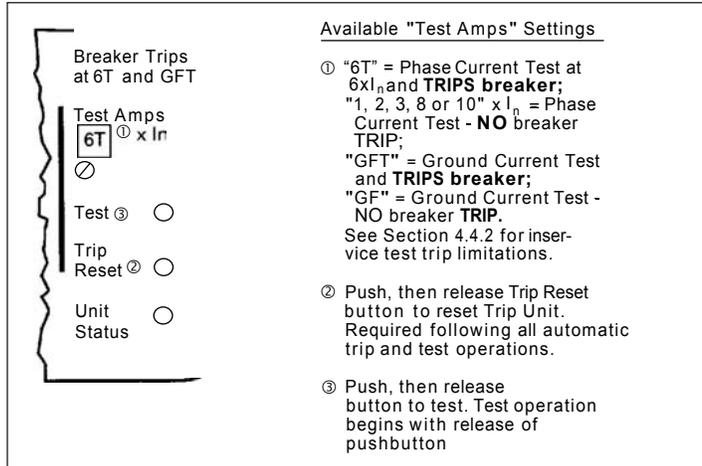

Figure 19. Integral Test Panel (Lower Right Corner of Trip Unit).
As indicated in Figure 19, six different "Test Amps" settings (1, 2, 3, 6T, 8 and $10 \times I_n$) are available for testing the phase elements of the Trip Unit, and two settings (GF and GFT) are provided for testing the ground element.
1. Place the "TEST AMPS" selector switch (see Figure 19) in one of the six "No Trip" test settings, i.e., 1, 2, 3, 8, or 10 x I_n , or GF.
2. Place the "TEST AMPS" selector switch (see Figure 19) in either the "6T (or "GFT) position.
3. Press and release the (Black) "TEST" push-button (see Figure 19) - the test starts when the push-button is released.
5. Reset the Trip Unit by pressing and releasing the "Trip Reset" push-button (see Figure 19). All LEDs lit by the "Trip" test action should turn "OFF".